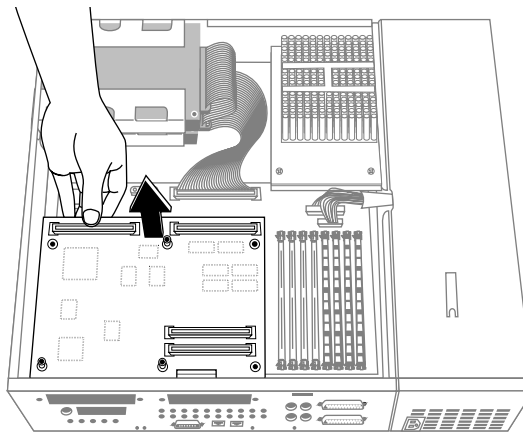

Figure 11 Disconnecting the graphics board from the system board
4. Disconnect the graphics board from the system board, as shown in Figure 11.